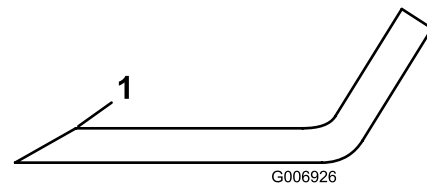

Figure 74
4. Inspect the cutting edges of all the blades. Sharpen the cutting edges if they are dull or nicked, sharpen only the top of the cutting edge, and maintain the original cutting angle to ensure sharpness (Figure 74).